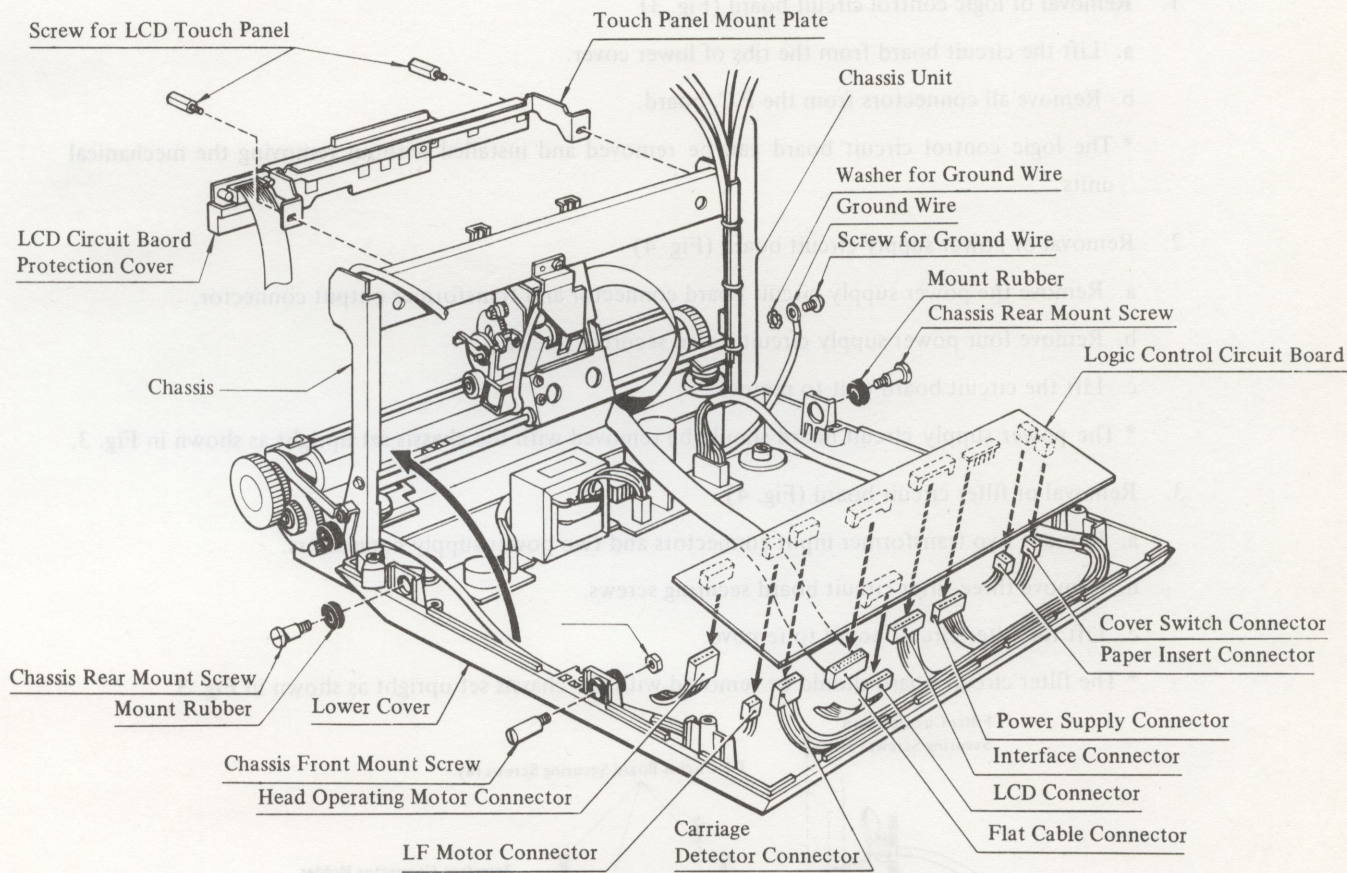

Fig. 3 (CE-58, CE-68)
1. Removal of logic control circuit board (Fig. 3)
* The power supply circuit board should be removed with the chassis set upright as shown in Fig. 3.
* The filter circuit board should be removed with the chassis set upright as shown in Fig. 3.